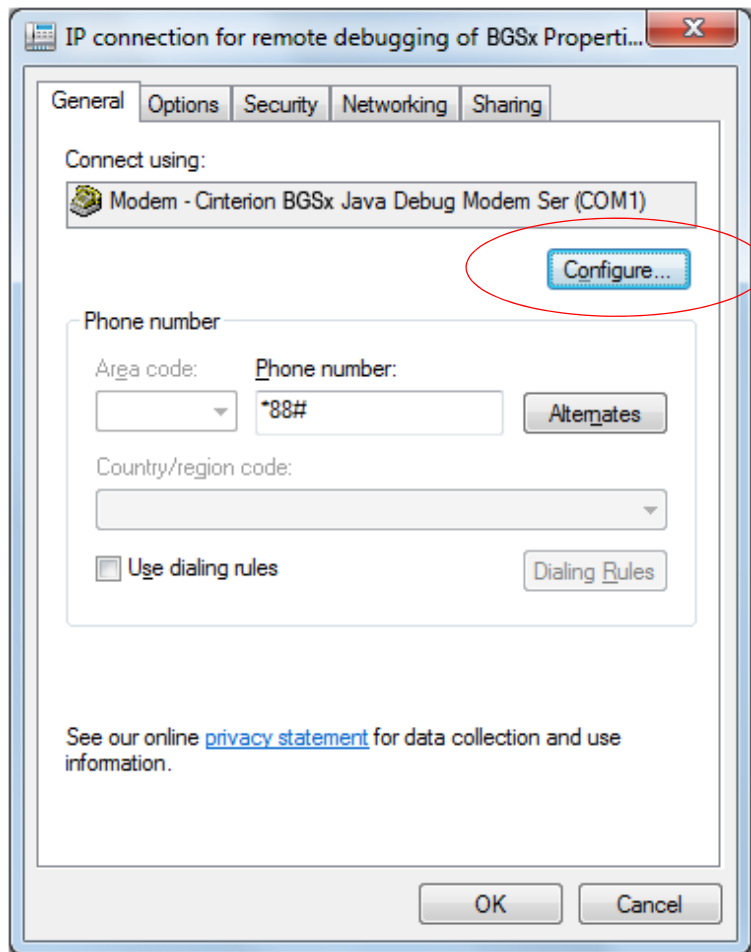
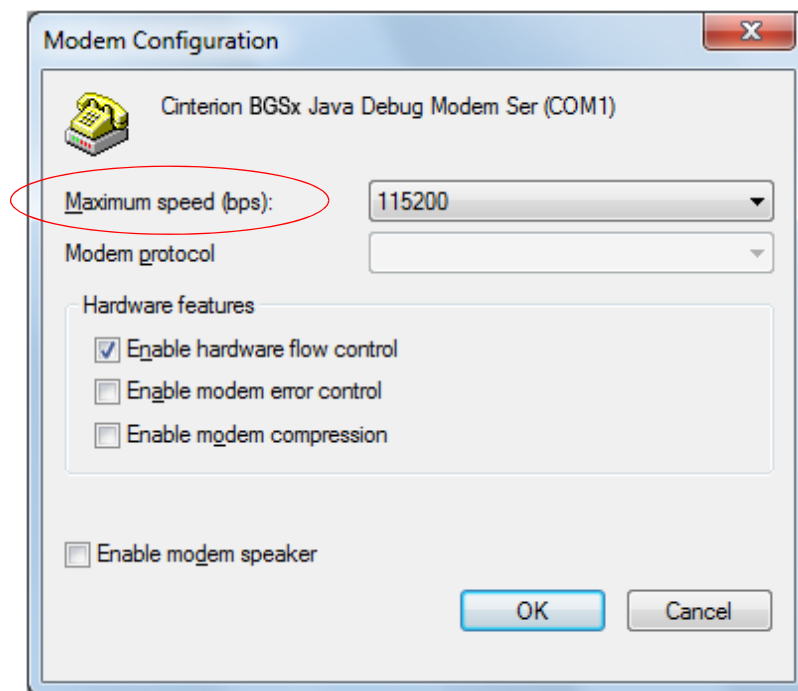

Figure 20: Configure debug connection
Figure 21: Specify baud rate for debug connection
- Then the baud rate used by the debug connection "IP connection for remote debugging of BGSx" must be set to exactly the same value. The properties of the debug connection are available via the Windows network connection settings (see Figure 20 and Figure 21).